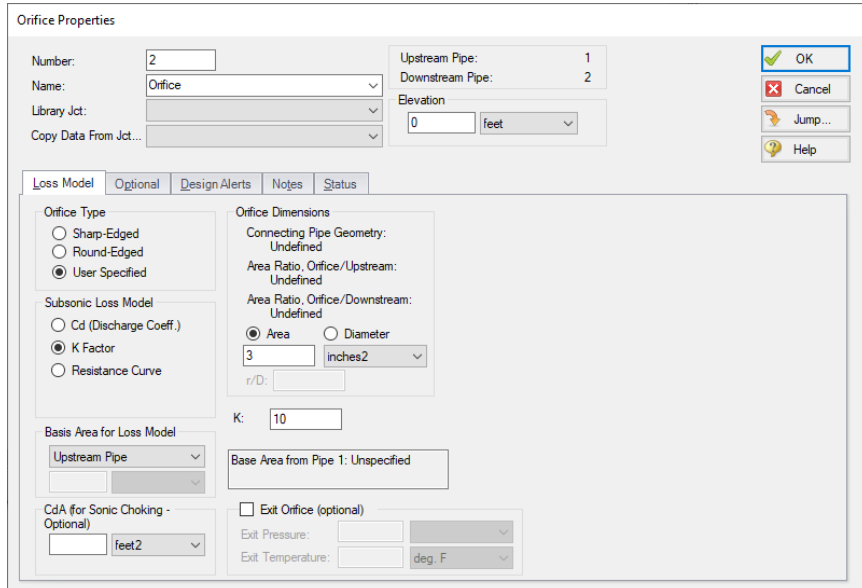

Figure 2.11 Properties window for Orifice J2
- **Next, open the Properties window** for Orifice junction J2. Enter the Orifice Type as User Specified, and the Subsonic Loss Model as K Factor. Enter the orifice area as 3 inches², the K factor as 10, and the elevation as 0 feet (see Figure 2.11).